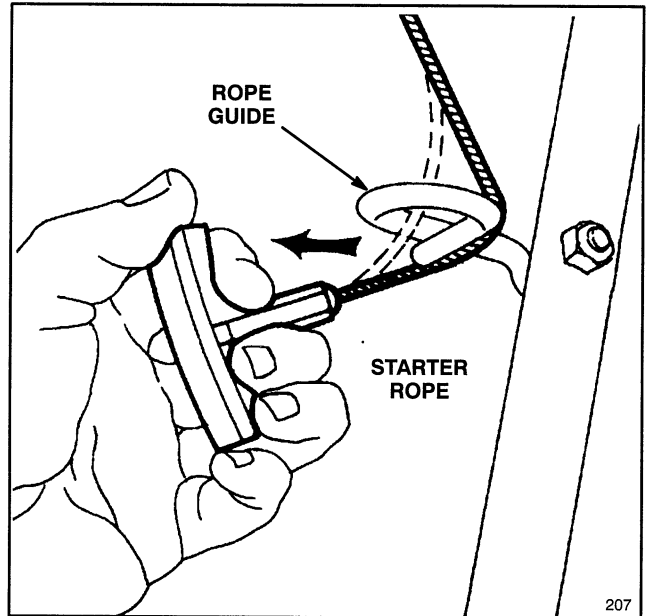
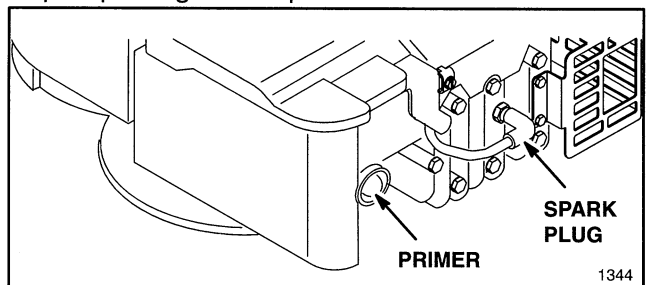

Figure 3
Figure 6
3. **STARTER ROPE** (Fig. 3)—Pull starter rope through opening in rope guide. By squeezing control bar (Fig. 6) against handle, blade brake will release and allow rope to be pulled easily up to rope guide.
1. Push spark plug wire onto spark plug (Fig. 6).
4. Push primer three (3) times (Fig. 6). **Wait about two (2) seconds between each push.**